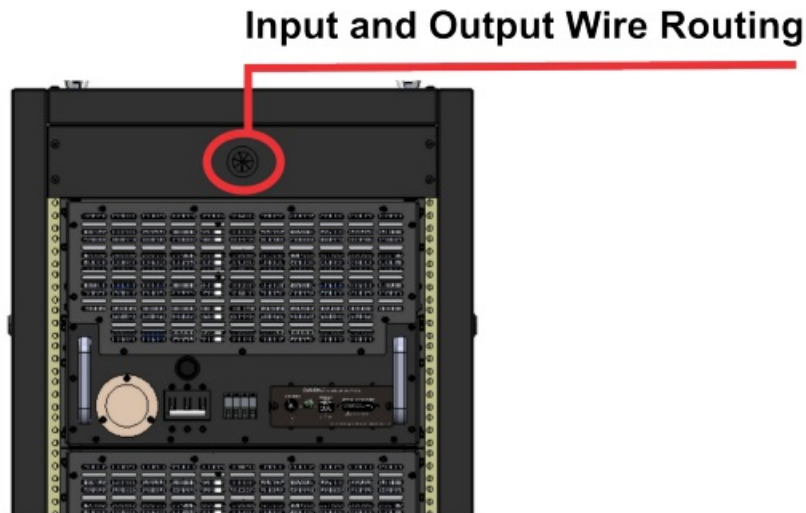

Figure 2.9 – Grommet for routing input and output wiring into the system case
1. Route your output cable through the grommet in the panel located at the top of the cabinet back. See Figure 2.9. Make sure the cable is long enough to reach the back panel of the Master amplifier module.